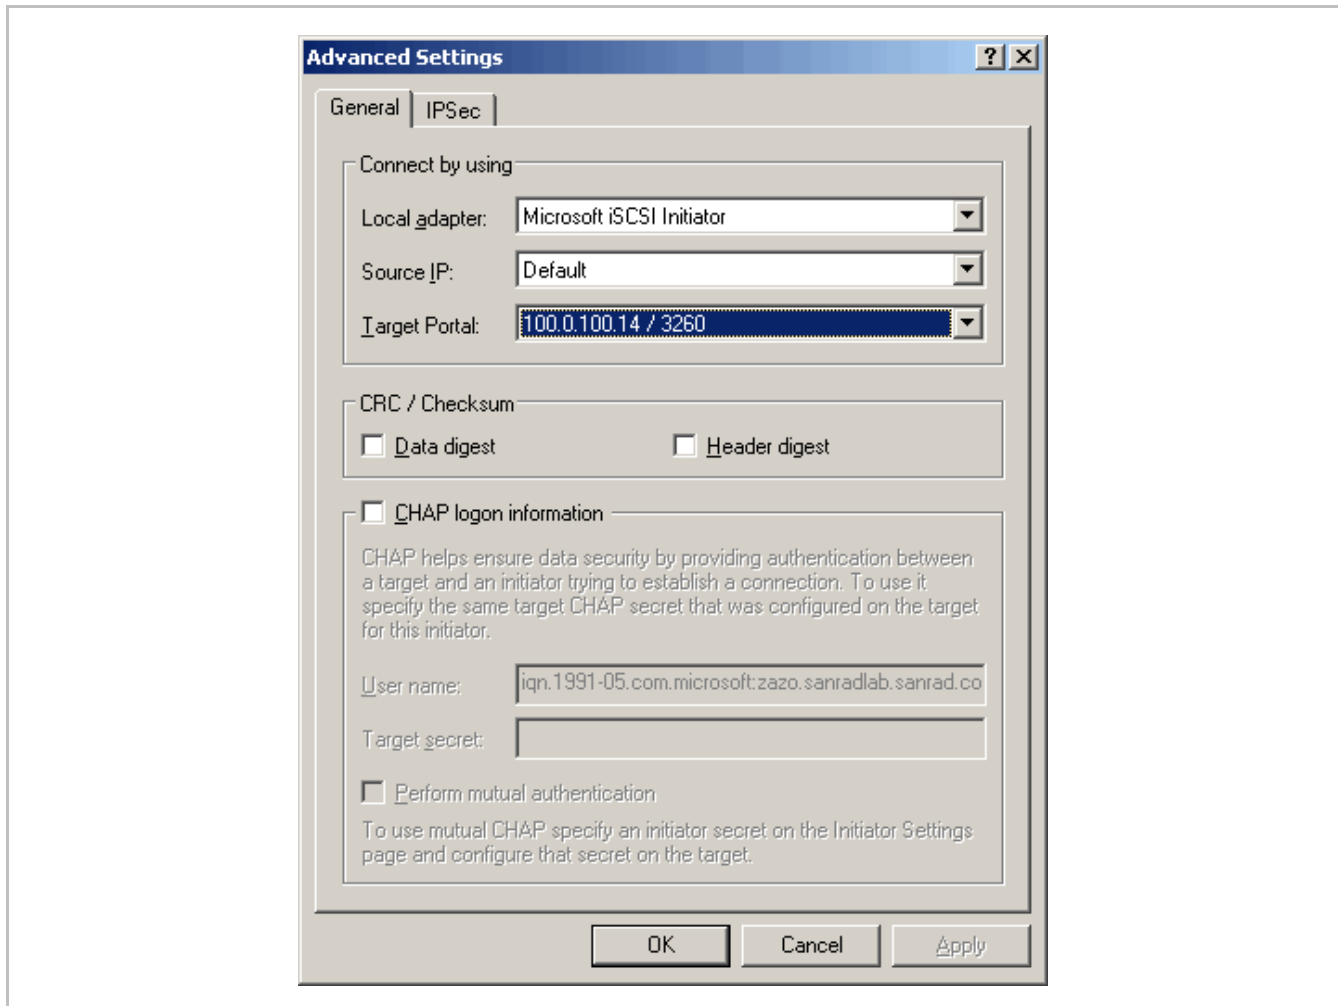

**Figure 12. Configure Multi Connections – Log On Window**
The Log On to Target Window appears (Figure 12).
6. Click OK (Figure 12).